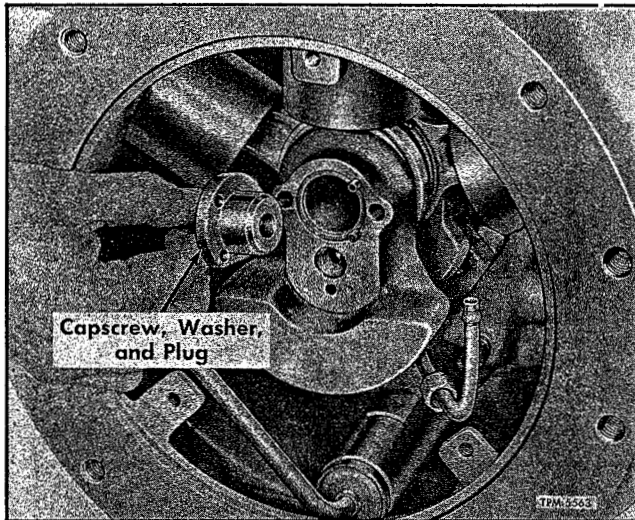
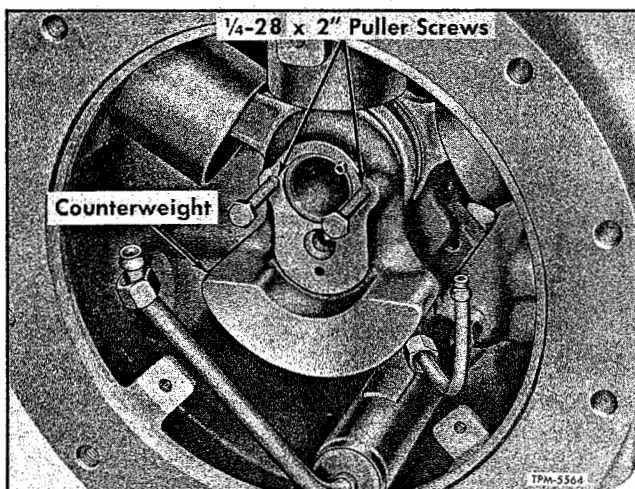

Figure 17—Replacing Plug, Washer, and Cap Screw
Figure 18—Method of Pulling Crankshaft Counterweight
2. Remove socket head cap screw, lock washer, and plug which retain counterweight (38) on compressor crankshaft (fig. 17). Use two puller screws (1/4-28 x 2") to force counterweight from crankshaft (fig. 18). Use care not to loosen the two dowel pins in counterweight.
5. Clean and oil the surface of crankshaft which is to contact the crankshaft counterweight (38). Align counterweight dowel pins with locating holes in crankshaft, then press counterweight to crankshaft. Tap counterweight to seat it firmly to shaft.
6. Install plug into crankshaft end (fig. 17). **NOTE:** The dowel pins which extend beyond counterweight must align with recesses in plug. Install lock washer and cap screw. Tighten cap screw to 23 ft.-lbs. torque.